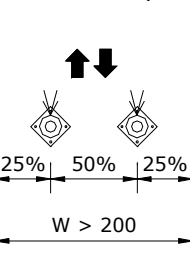

Fig 3
**Figure 3** shows recommendations on how steam pipes should be spaced in a vertical duct